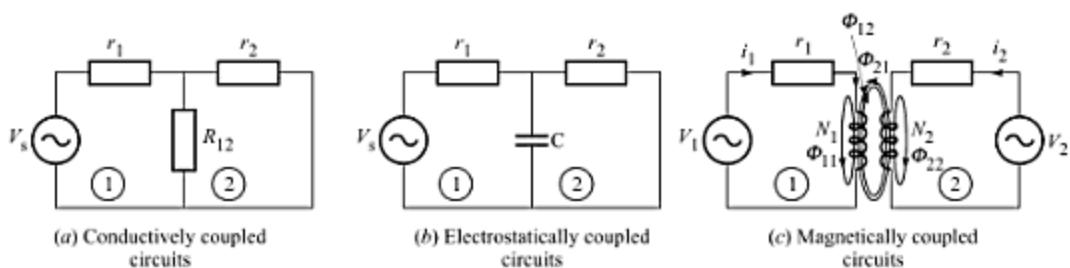

Fig. 7.2 Mutual coupling between two circuits.
When interchange of energy takes place between two circuits, we say that the two circuits are *mutually coupled*. As illustrated in Fig. 7.2, there can be three ways of coupling two circuits: (a) conductive, (b) electrostatic, and (c) electromagnetic. In Fig. 7.2a, resistor R_{12} is the mutual resistance between circuit ① and circuit ②. In Fig. 7.2b, the two circuits are coupled electrostatically through the mutual capacitor C .